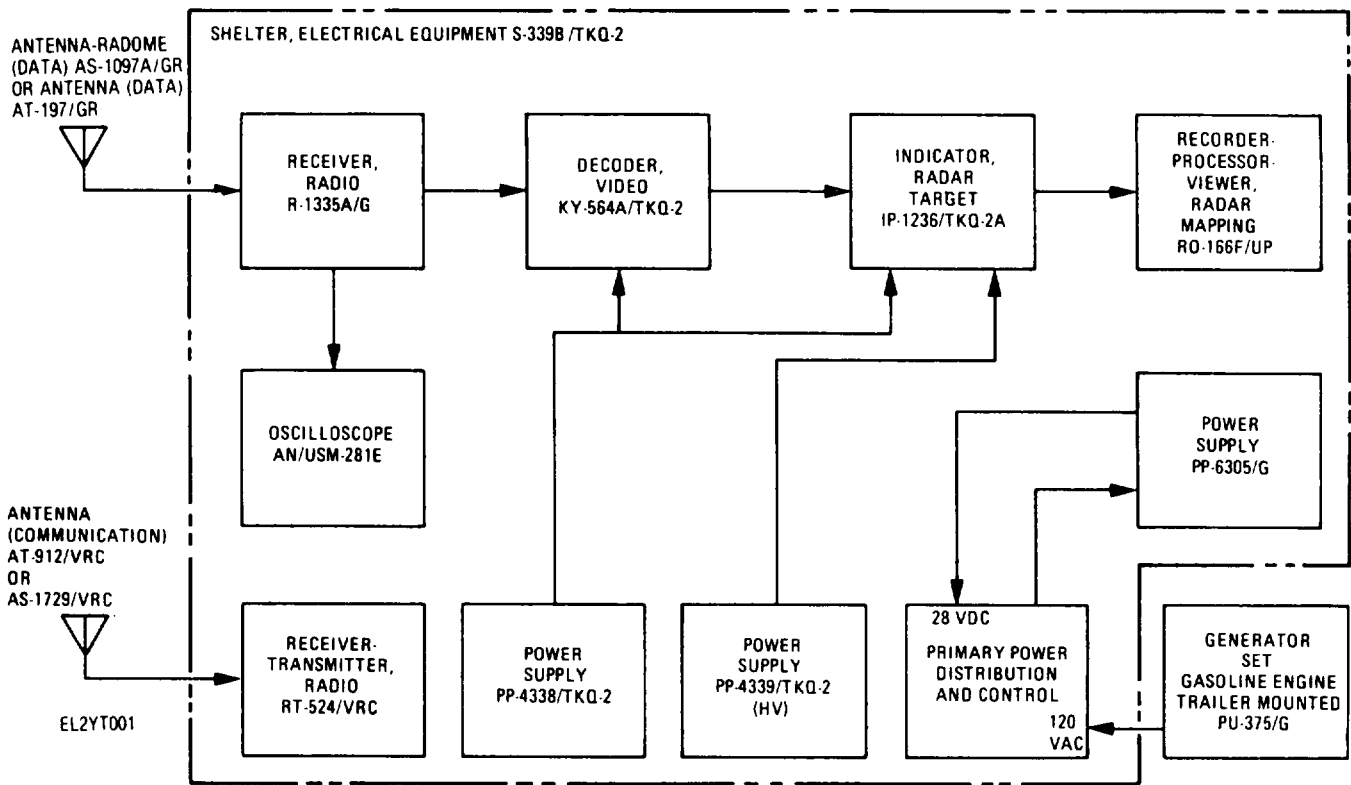

Figure E-1. Receiving Set, Radar Data AN/TKQ-2A, block diagram
d. Signal flow through components of the AN/TKQ-2A is shown in figure E-1.